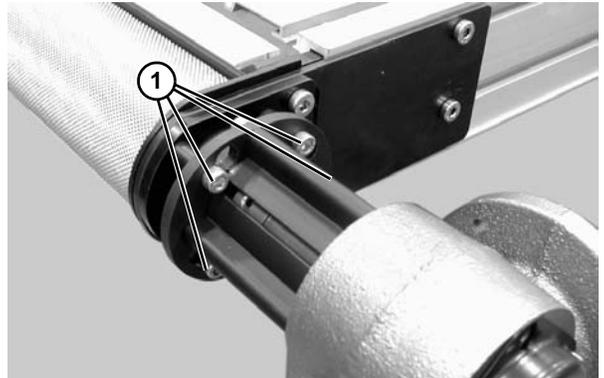

**Figure 82**
- e. Remove four (4) M5 mounting screws (**Figure 82, item 1**) and two (2) M8 mounting screws (**Figure 82, item 2**).
- f. Remove gearmotor and mounting plate assembly (**Figure 82, item 3**).